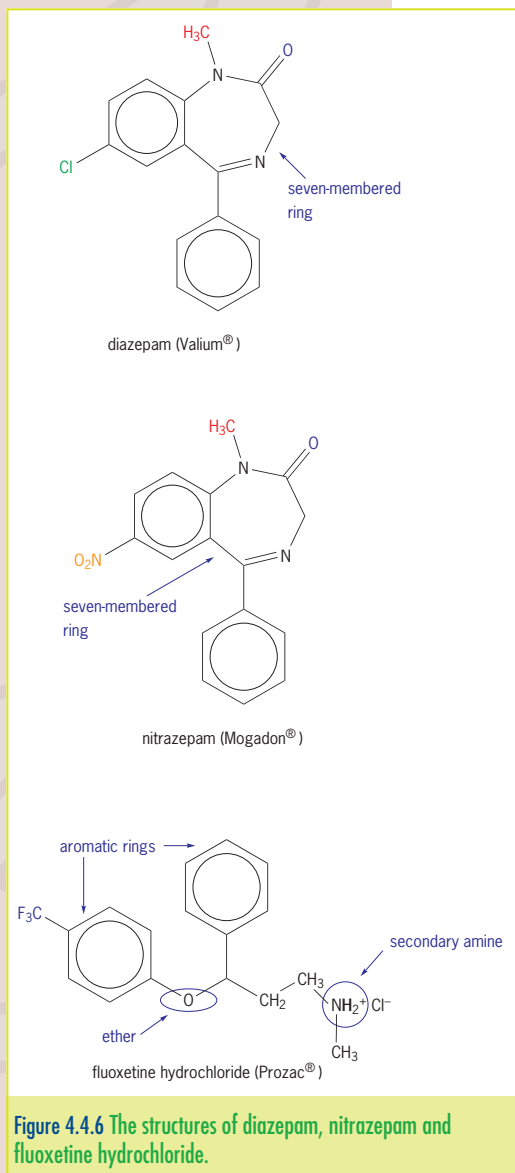

Figure 4.4.6 The structures of diazepam, nitrazepam and fluoxetine hydrochloride.
- Nitrazepam and diazepam are very similar in their structures. Referring to figure 4.4.6 describe two similarities and one difference between the two structures.